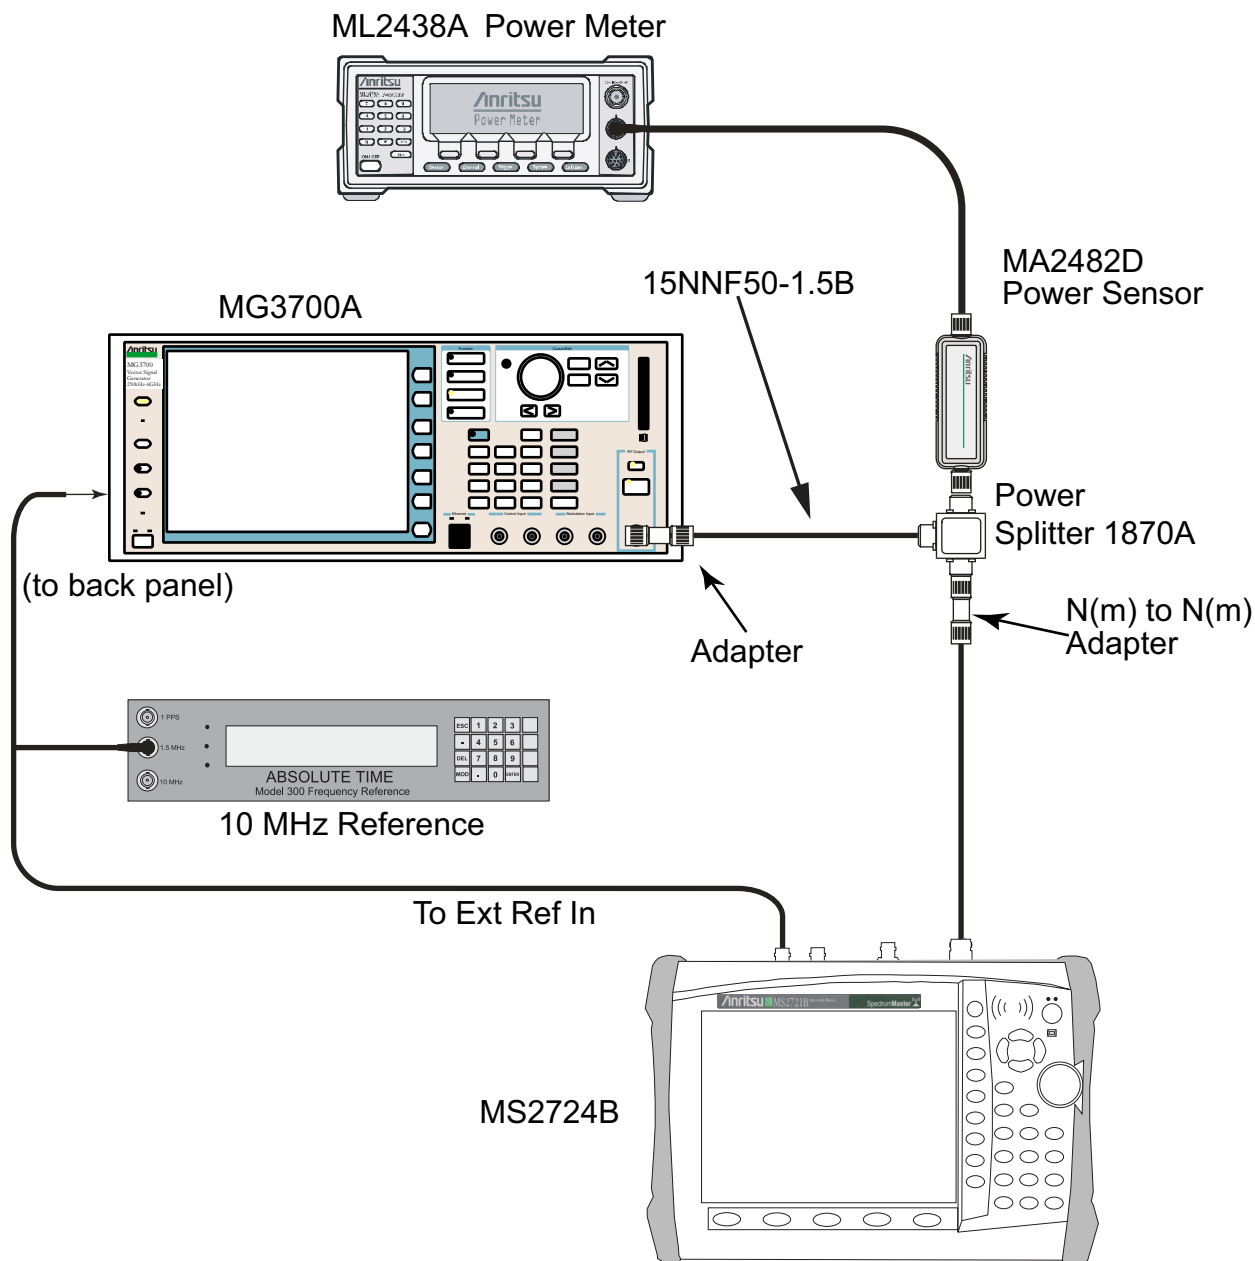

Figure 2-18. GSM/GPRS/EDGE – Test Setup
1. Connect the equipment as shown in Figure 2-18.